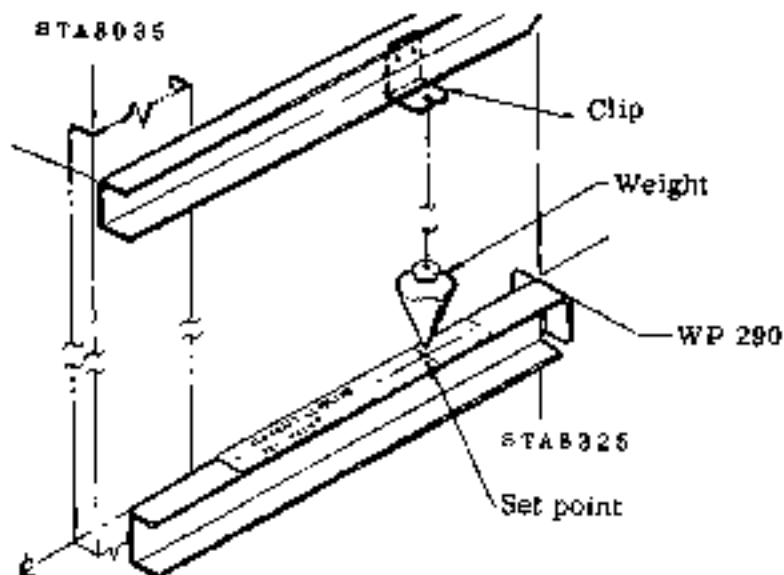

Fig. 2-7 Leveling procedure
2.4 LEVELING (See Fig 2-7)
For leveling, hang a weight from the leveling clip attached to the pressure bulkhead channel (F. STA8035) in the electric compartment and adjust the airframe so that the tip of the weight may come to the set point as shown in Fig. 2-7. Adjustment can be accomplished by either reducing the air pressure or jacking at specified locations until the aircraft becomes level.